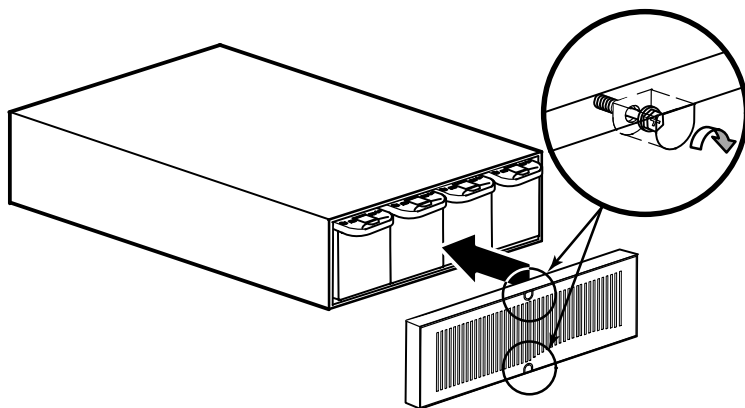

Figure 43. Replacing the EBM Front Cover
6. Replace the EBM front cover (see Figure 43) and tighten the two front cover screws.